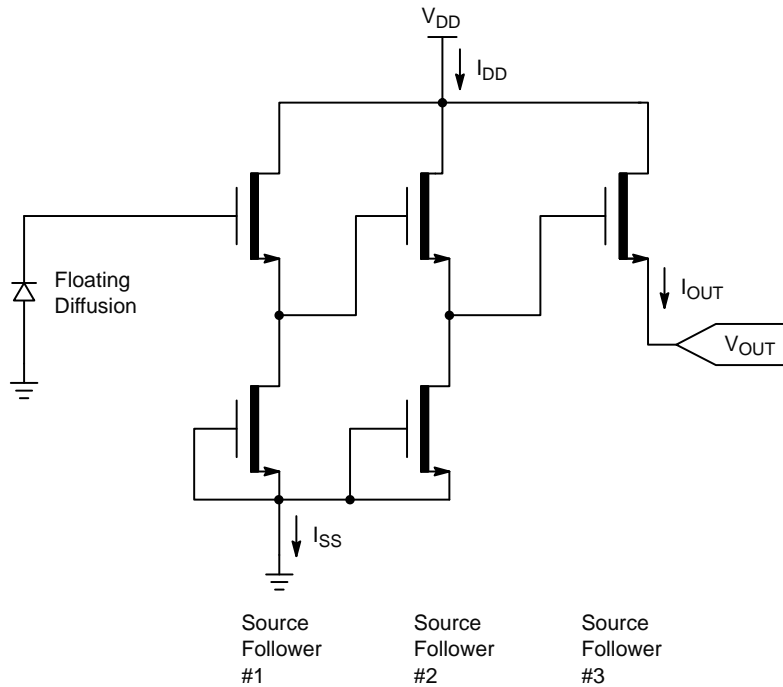

Figure 18. Output Architecture
- Each output. See Figure 18. Note that the current bias affects the amplifier bandwidth.
3. One output, unloaded. The maximum DC current is for one output unloaded and is shown as I_{SS} in Figure 18. This is the maximum current that the first two stages of one output amplifier will draw. This value is with V_{OUT} disconnected.